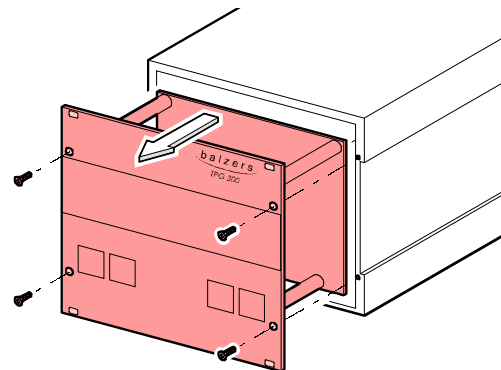

Fig. 1
4. Unscrew the front panel assembly and remove it (fig. 1).